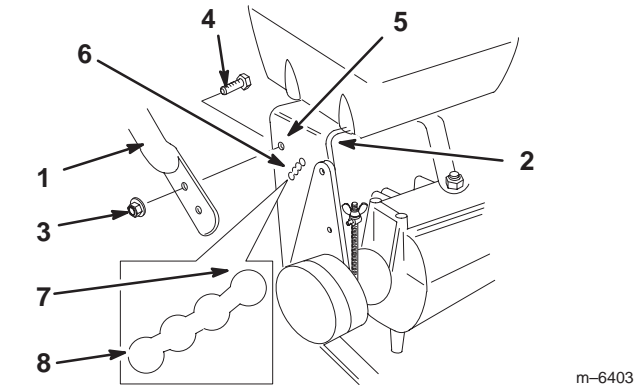

Figure 4
1. Remove the center gage wheel nut, 2 large washers, angle bracket and 1 small washer (Fig. 4). Discard the 2 large washers and the angle bracket.
1. Align handle with upper mounting holes in rear frame (Fig. 4).
2. Secure the handle at each upper mounting hole with a flange bolt (3/8 x 1 inch) and flange nut (Fig. 4).
3. Select the low position for the lower mounting hole (Fig. 4).
- Secure the handle at each lower mounting hole with a flange bolt (3/8 x 1 inch) and flange nut (Fig. 4).